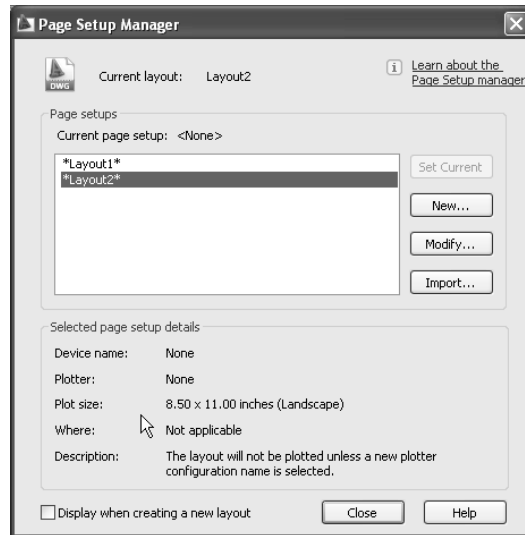

Figure 12.20
2. Select Page Setup Manager from the shortcut menu. This opens the Page Setup Manager dialog box, as shown in Figure 12.20.